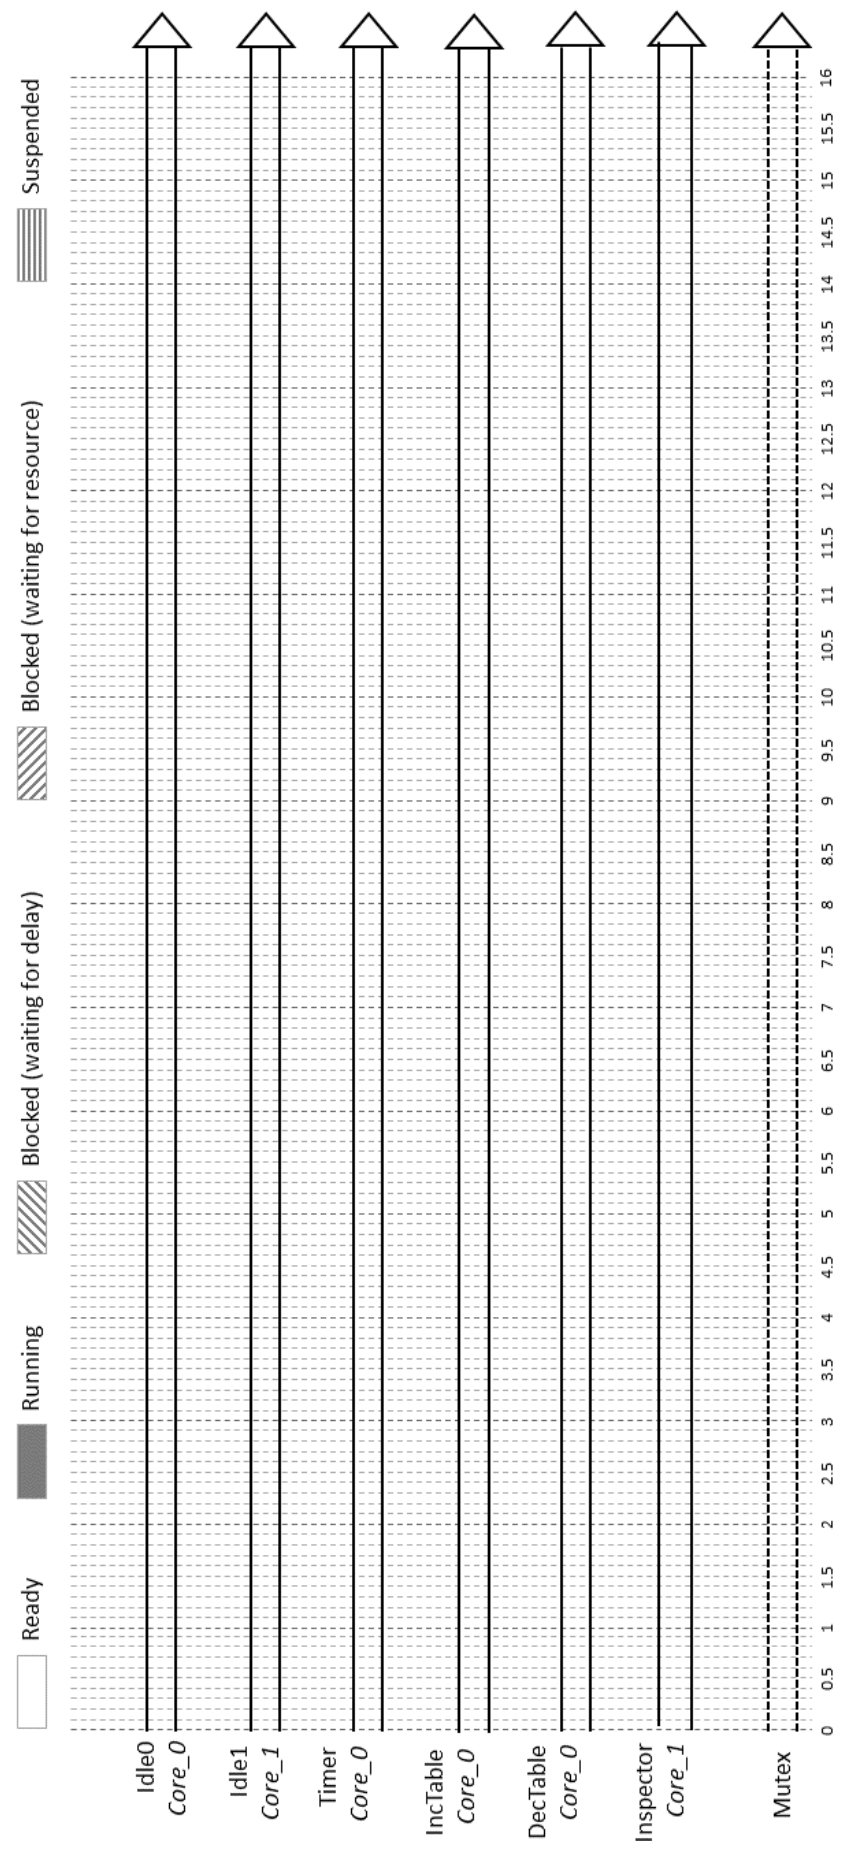

FIGURE 3.8 – Program with Task inspector on the Core\_1 and Mutex.
12. We now decide to add a delay of 2 ticks after giving the mutex (using *vTaskDelay()* function). Run the program, copy the console, trace in the figure 3.8 the behavior of the 3 tasks and Mutex until 90 ticks and explain the behavior.